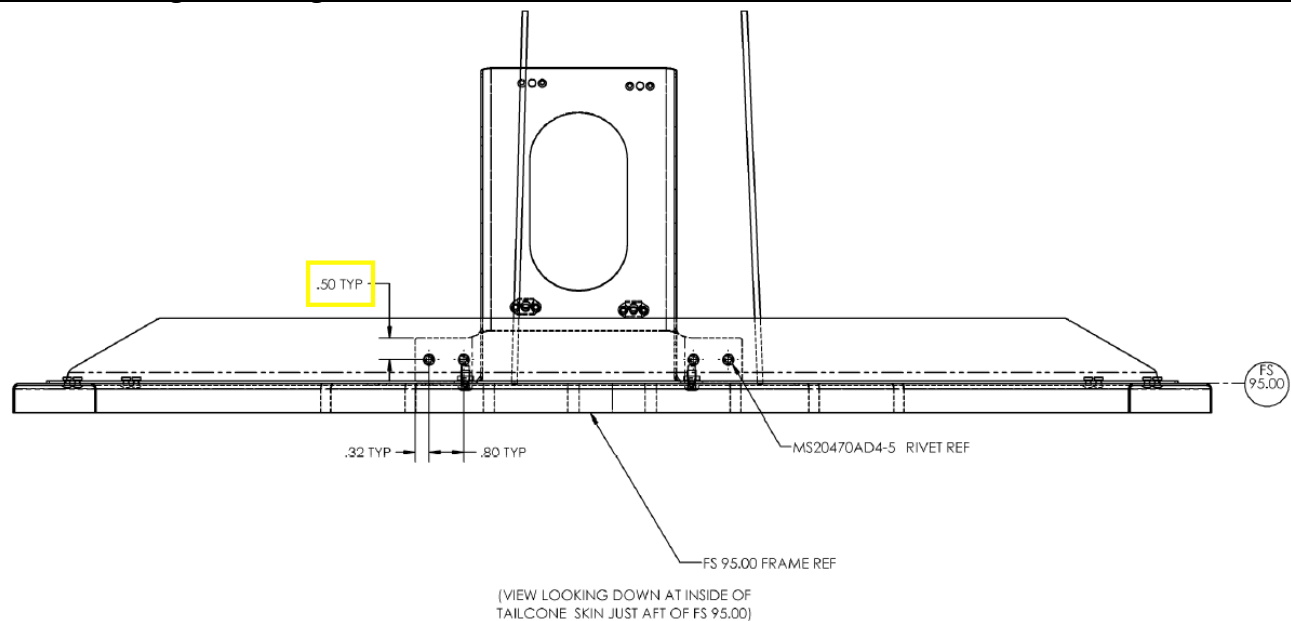

FIGURE C- 5 PITCH INSTALLATION TOP VIEW
9. Drill the 4 upper bracket holes through the angle with a #30 drill bit ensuring proper edge distance on the angle and bracket. Install clecos. Refer to Figure C-5.